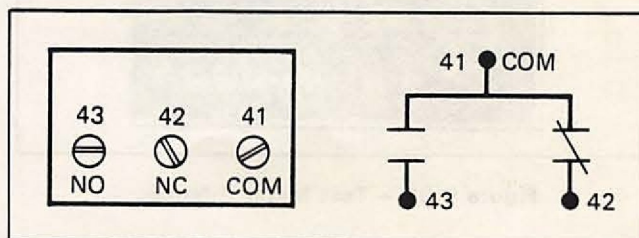

Figure 5.20 — External Wiring, Auxiliary M
The Kit provides a single pair of Form C contacts, one normally open (NO) and one normally closed (NC). Both share a common terminal. (Refer to Figure 5.20.) These contacts function whether the controller is unidirectional (forward only) or bidirectional (forward/reverse).